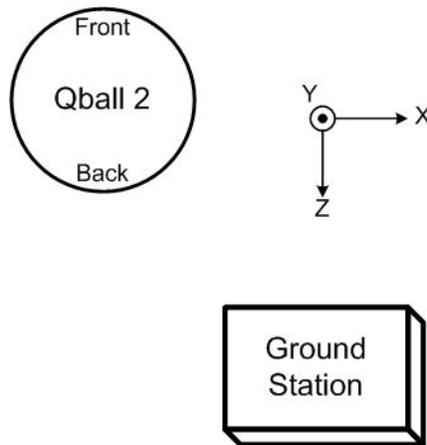

Figure 6.14: The localization system's coordinate frame.
The axes of the OptiTrack workspace are arranged in a specific orientation. With respect to the operator, the positive X axis points to the right, the positive Z axis points toward the operator and ground station, and the positive Y axis points upward with the origin located on the ground in the center of the workspace as shown in Figure 6.14. This is the workspace frame expected by the QBall 2 controller. Typically, the workspace frame will undergo a transformation in the host model that interfaces with the localization system so that it conforms to this desired orientation.
3. Place the QBall 2 in the workspace so that its markers are clearly visible and so that the QBall 2 is oriented correctly with respect to the OptiTrack axes with its tail pointing in the +Z axis direction (see Figure 6.14).